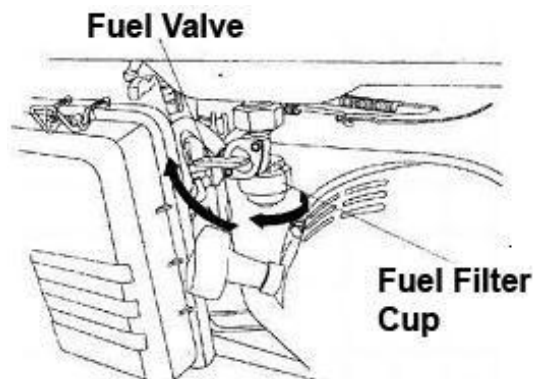

Figure 19 – Removing the Fuel Filter Cup
2. Unscrew the fuel filter cup from the fuel valve using a wrench. Turn the valve towards you to unscrew (see figure 19).